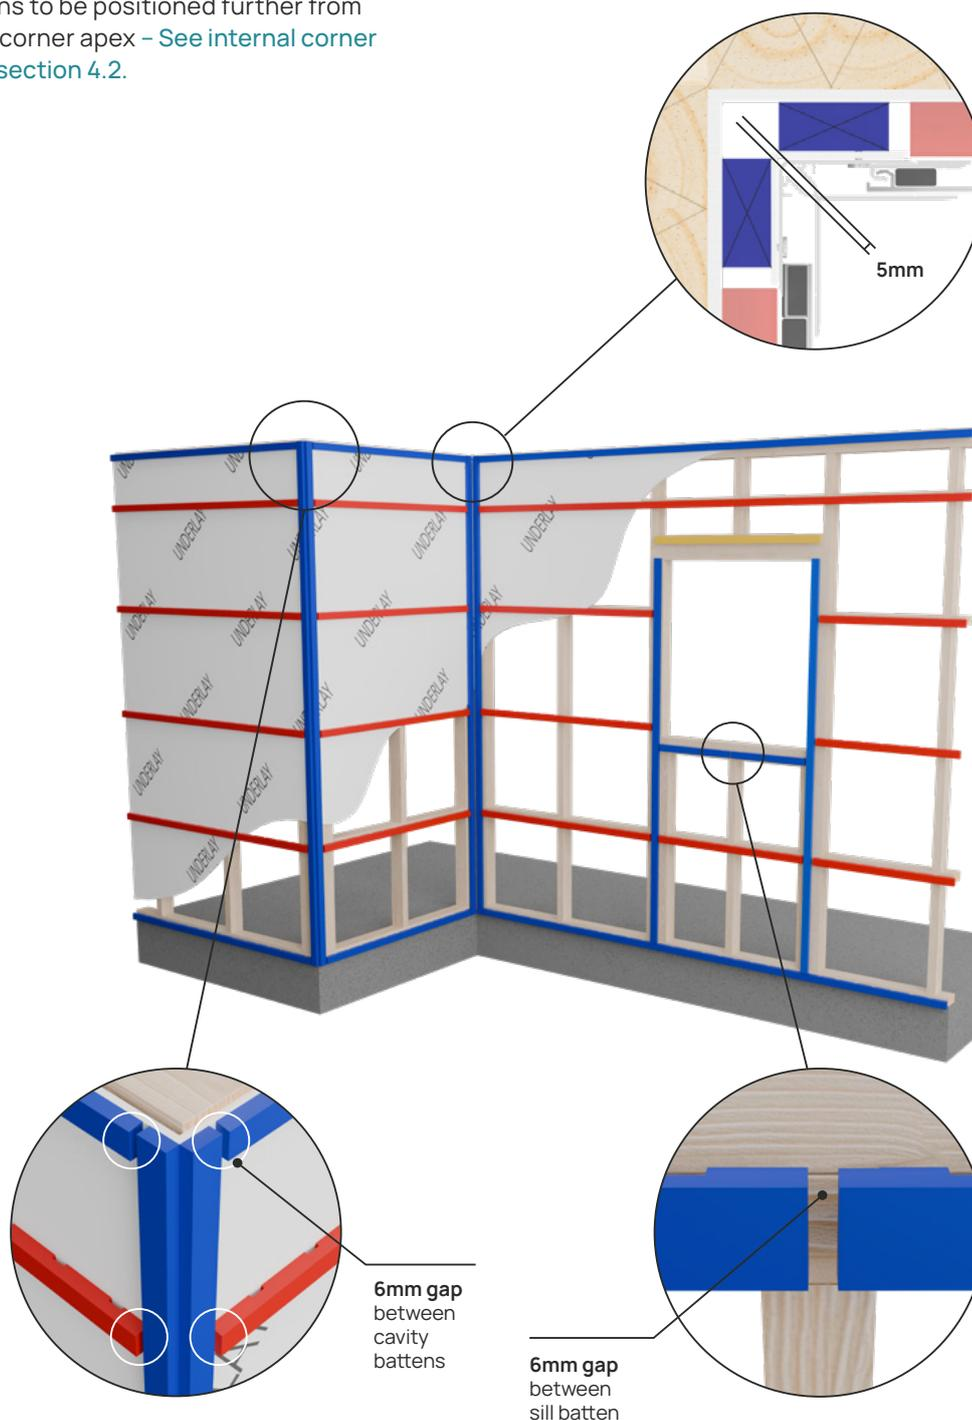

FIGURE 2. TYPICAL CAVITY BATTEN CONFIGURATION FOR VERTICAL CLADDING
- See Figure 2.
- Internal corner vertical cavity battens should be positioned so that the internal batten corners have 5mm clearance - See Figure 2.